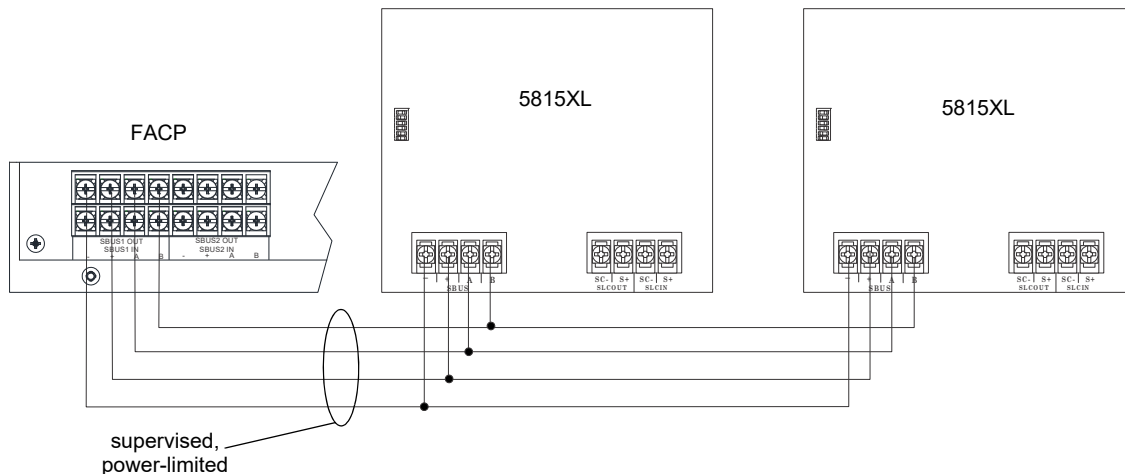

Figure 4.29 5815XL Connection to Main Panel Assembly
3. Connect the 5815XL to the control panel. (See Figure 4.29.)
Connect the 5815XL to the control panel as shown in Figure 4.29. After the 5815XL is connected to the panel, it must be added to the system. This programming steps are described in Section 8.2.2.